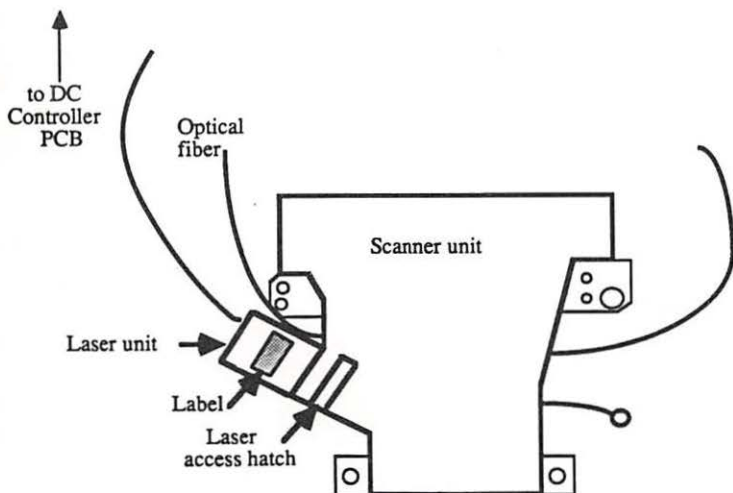

FIGURE 3-4
12. Compare the averaged reading to the reading shown on the laser label (see Figure 3-4).